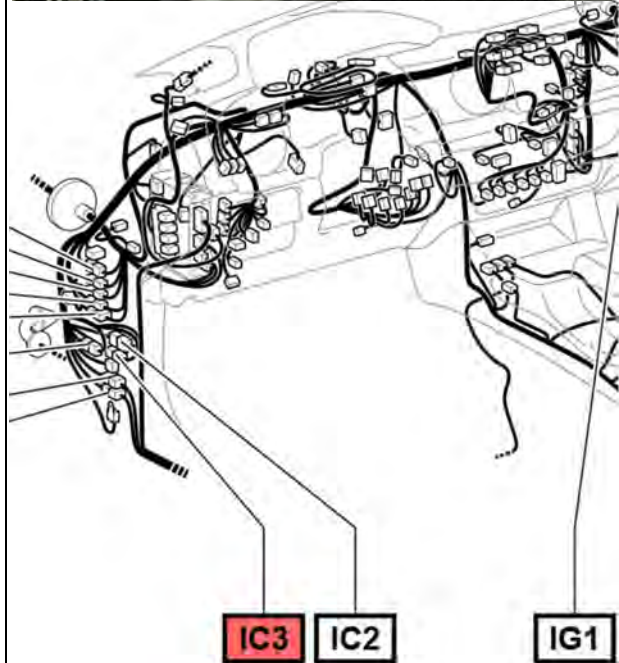

Figure 19b
19. Locate vehicle white connector IC3 in the LH kick panel. Disconnect connector. T-Tap the mirror main power harness ignition power wire (black/white) to Pin 8 grey wire in white connector IC3. See figure 19a and figure 19b.